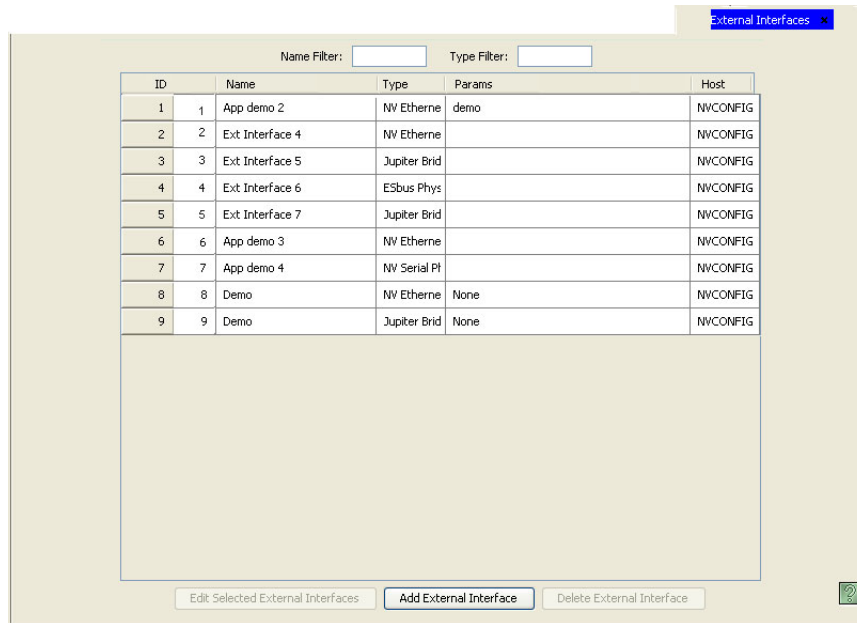

Figure 14-9. External Interfaces Page
- 2 From the Navigation area, select the 'Configuration' pane and then 'External Interfaces'. The 'External Interfaces' page displays, as shown in Figure 14-9.